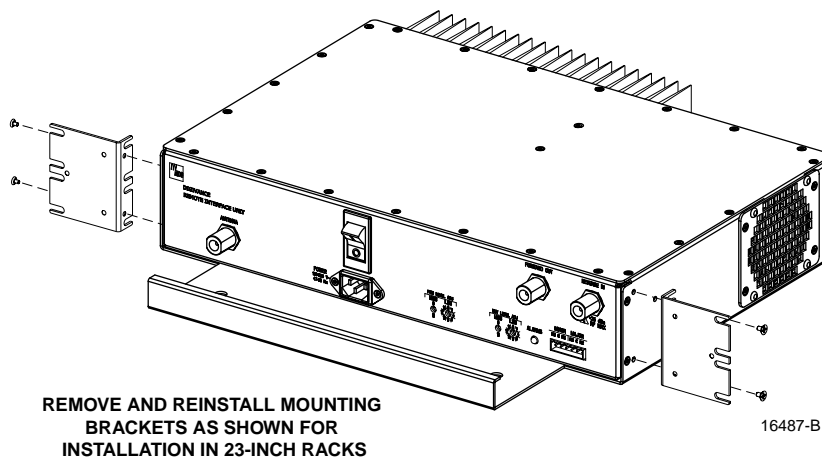

Figure 4. Installing the Mounting Brackets for 23-Inch Rack Installations
3. Reinstall both mounting brackets so the long side of the bracket is flush with the RIU front panel as shown in Figure 4. Use the screws removed in step 2 to re-attach the brackets to the RIU enclosure.